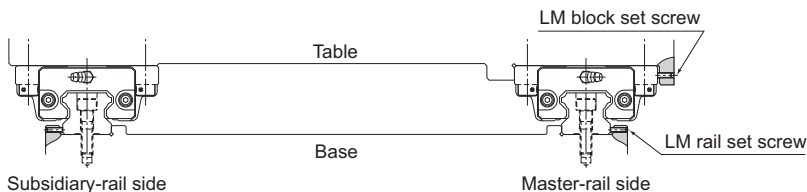

Fig. 5: When an Impact Load is Applied to the Machine
- (1) Gently place the table on the LM blocks and temporarily fasten the mounting bolts.
- (2) Press the master side LM blocks to the side reference surface of the table using set screws and position the table. (See Fig. 5 on **B1-91**.)
- (3) Fully fasten the mounting bolts on the master side and the subsidiary side to complete the installation.